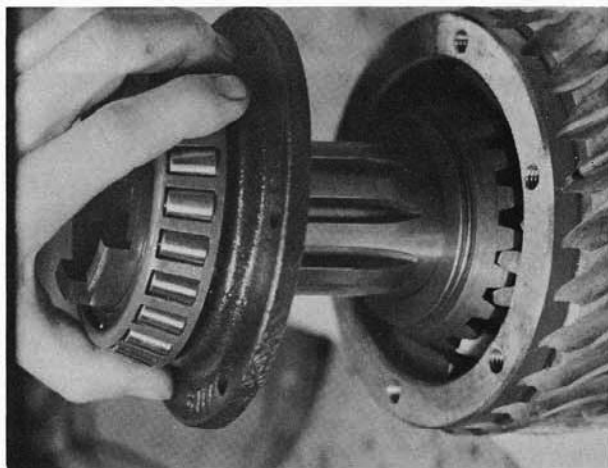

Figure 31
9. Now put the Clutch Housing (6717) on the hub of the Shifting Gear (6704) as shown in Figure 31. Note that the Clutch Housing and Worm Wheel do not meet flush because shims